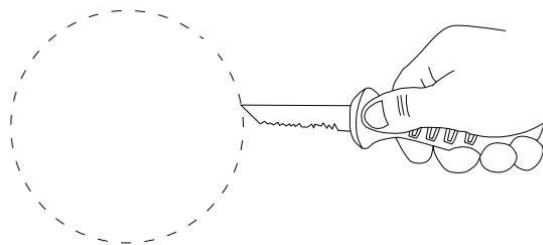

Fig 1.
6. Mark and cut out a **240mm diameter hole** for units 22771/05 and 22773/05. (Fig 1).
7. Mark and cut out a **295mm diameter hole** for units 22772/05 and 22774/05. (Fig 1).